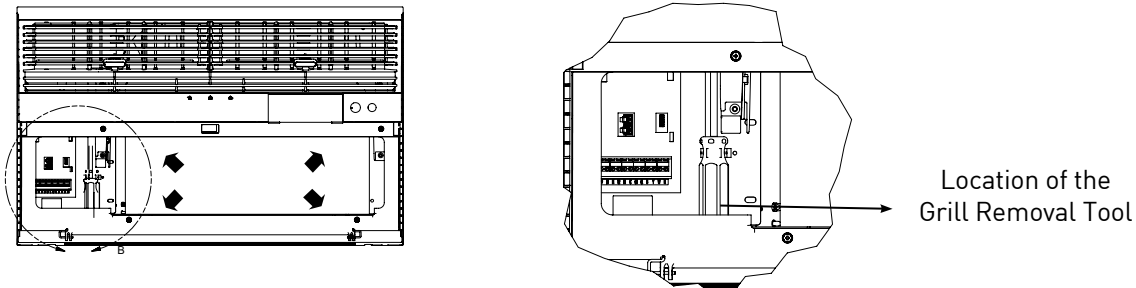

Figure 401 (Remove and Install the Front Cover)
1. Using the tool provided (see figure below), loosen the four (4) captive screws as shown in figure 401
1. Remove the decorative front cover. See Routine Maintenance Figure 401.